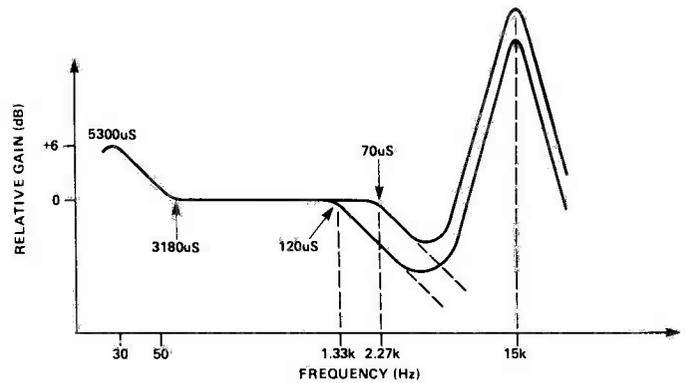

Fig. 12 Record pre-emphasis and de-emphasis for cassettes, showing additional compensation for head losses.
11. Head losses: We have assumed, so far, that the recording and replay heads — which are often the same unit in cassette recorders — behave in a perfect manner. They don't. Mainly because of the finite gap width, their HF performance is poor. This means that some form of HF pre-emphasis has to be applied, during recording, to assist in achieving a satisfactory HF output. This recording pre-emphasis, of 15-25dB magnitude, will be applied, as shown in Fig. 12, at the point where it is expected that the replay HF response will start to fall. This is not a good thing, since it will tend to cause HF overload, and increased distortion and intermodulation effects, but is feasible because signal amplitudes at HF are generally low.